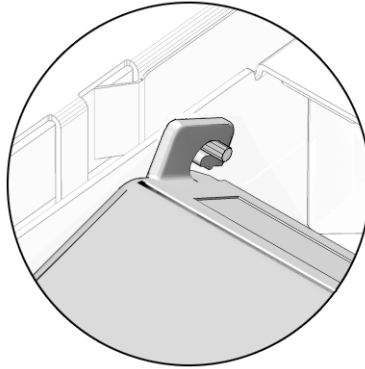

FIGURE 3-47 Unhooking the DIMM/CPU Duct From the Pins of the Chassis
3. Unhook the duct from the pins of the chassis (FIGURE 3-47).
2. Position the duct vertically over the pins of the chassis and hook the duct to the pins of the chassis (FIGURE 3-47).